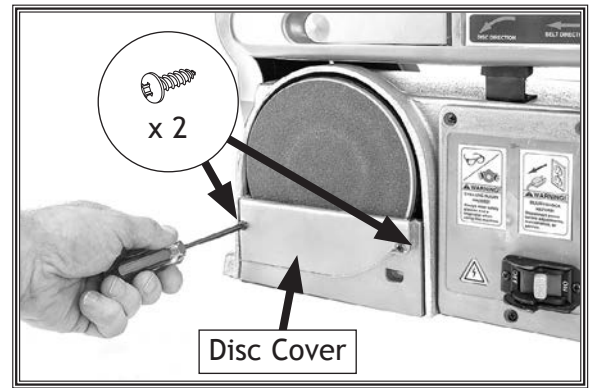

Figure 8. Installing disc cover.
2. Mount disc cover to holes in sander body near bottom of aluminium disc, using (2) M4 x 10 tap screws, as shown in **Figure 8**.